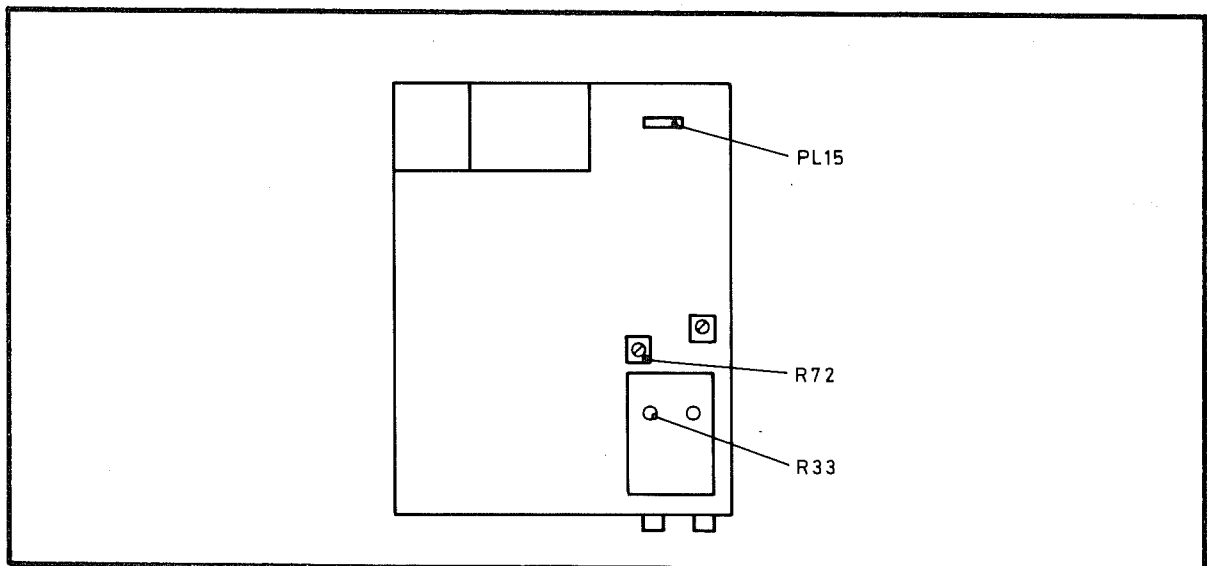

Fig 7.9 Location of R33, R72 and PL15
- 22 Set R72 fully counter-clockwise and R33 to its mid-position. R33 is located inside the screened module, as shown in Fig 7.9.